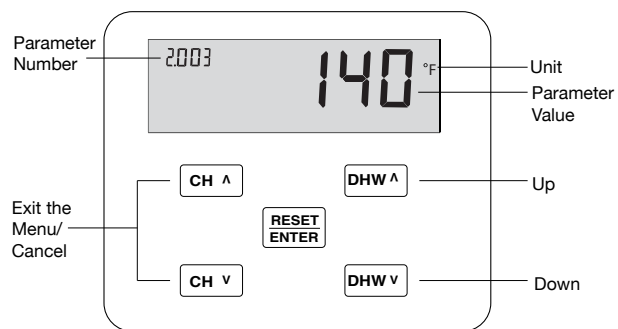

Figure 11.11: Installer Menu Screen
2. Repeat the above step till all 4 digits have been entered. If all four digits have been entered correctly, pressing ENTER/RESET on the fourth digit will grant access to the Installer Menu (Fig.11.11).